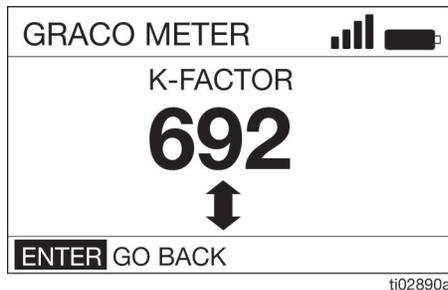

FIG. 21
8. The current K-FACTOR is displayed. In the example shown the K-FACTOR is 169 (FIG. 21).